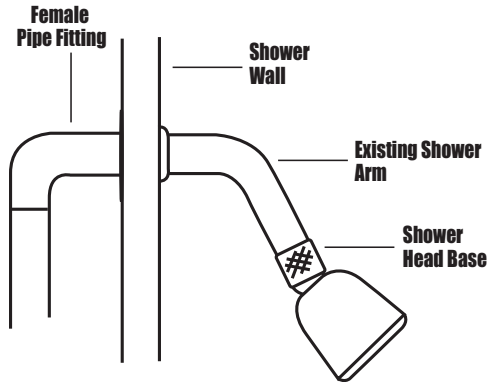

Figure 1
Shower Head Units with Adjustable Arm (Fig. 1)
- 2) Look at the existing shower head, most have flat spots on the threaded shower head base (see figure 1) where it screws into the existing shower arm that sticks out of the wall.